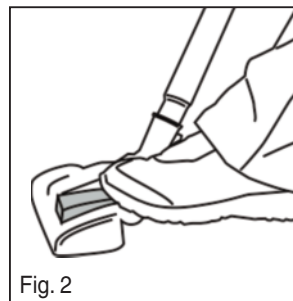

Fig. 2
- Push hose handle into wand, aligning hose suction control and wand release button (Fig. 2).
- Adjust floor nozzle brush lever. For hard floors, press lever down to extend brushes (Fig. 2). For carpeted floors, pull lever up to retract brushes.